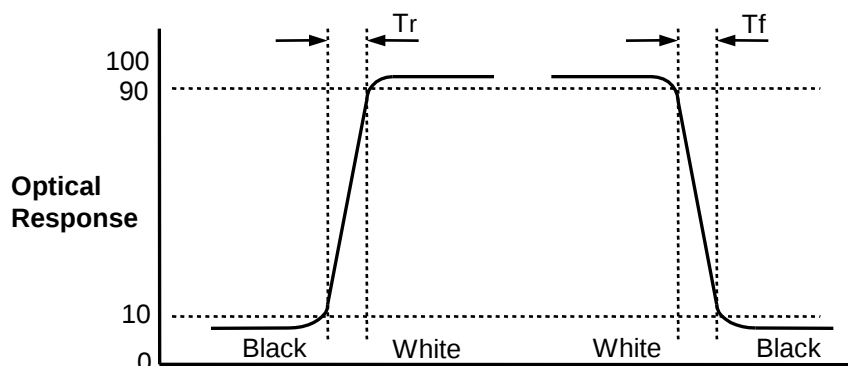

FIG. 5 Response Time
3. Response time is the time required for the display to transit from any gray to white (Rise Time, Tr_R) and from any gray to black (Decay time, Tr_D). For additional information see the FIG. 5.